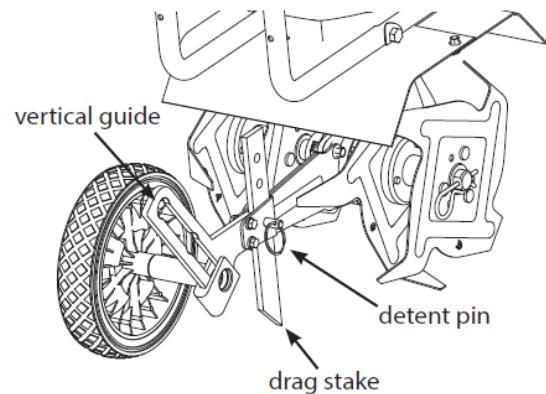

Figure 9
1. Pull the pin out of the drag stake mount hole (**Figure 9**).